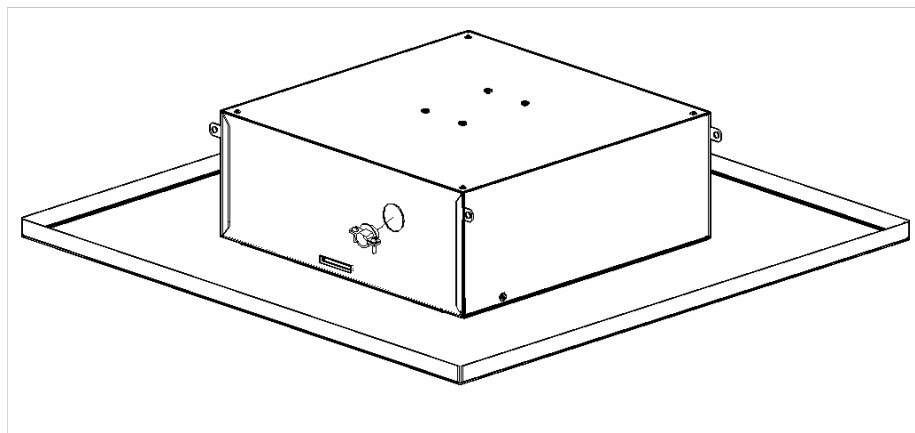

Figure 1
Step 1 – Place the *ceiling enclosure assembly* on the work surface with the keyed doorway unlocked. The *eye tabs* will be used to secure the enclosure with grid wires (Ref. Figure 1).